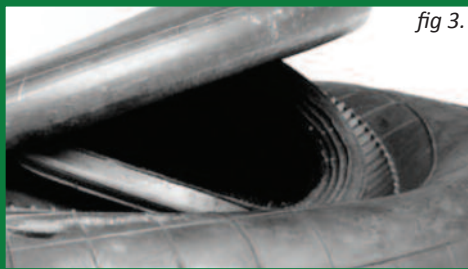

fig 3.
- Rubber bellows separated from bead plate (fig 3.).